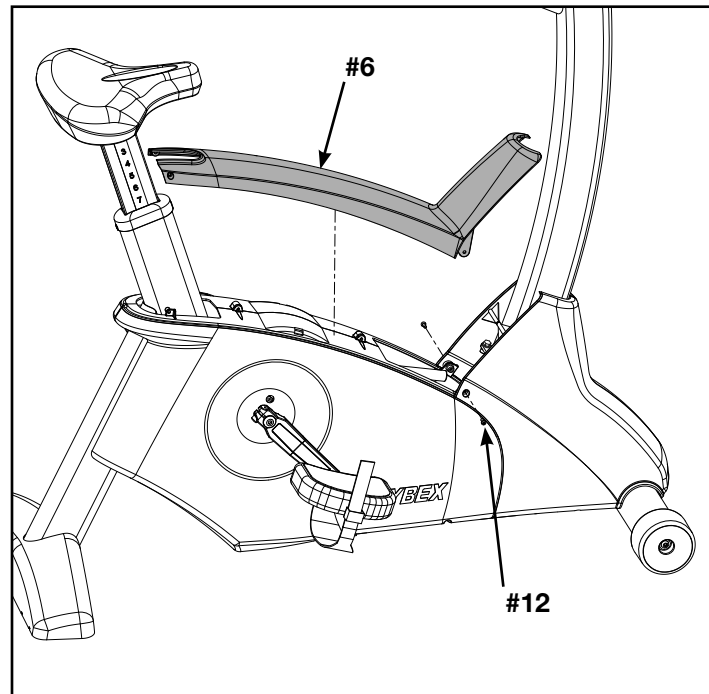

Figure 6
- A. Locate and place the top cap (#6) on the top of the unit as shown in Figure 6.
- B. Using a Phillips screwdriver, secure the front with two screws 8-16 x .50" (#12). See Figure 6.